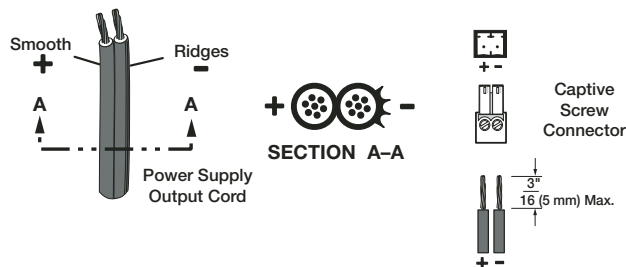

Figure 8. Power Connector Wiring
- ① **Power connector** — Plug the included external 12 VDC power supply into this 2-pole captive screw connector. Wire the connector as shown in figure 8 on page 12.
Figure 8 below shows how to wire the connector.